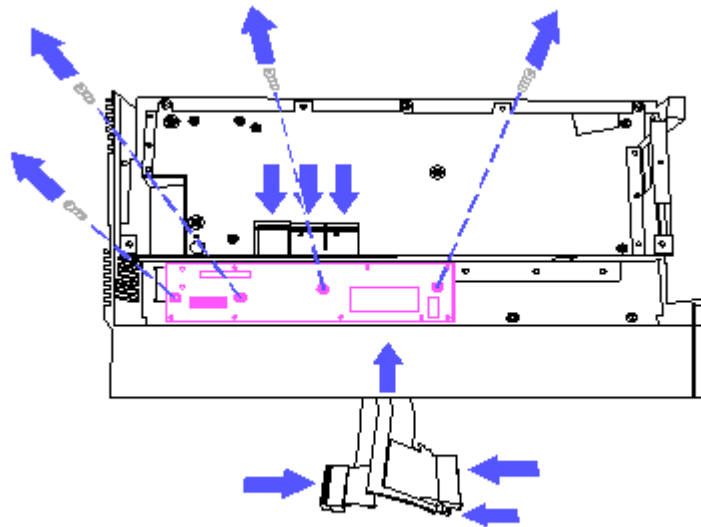

Figure 5-27. Removing the Power Distribution Board
13. Using a Torx T-15 screwdriver, remove four screws securing the power distribution board (Figure 5-27).
14. Carefully pull the I/O cables, diskette drive cable, fixed disk drive cable, and power cable through their respective slots and remove the power distribution board (Figure 5-27).